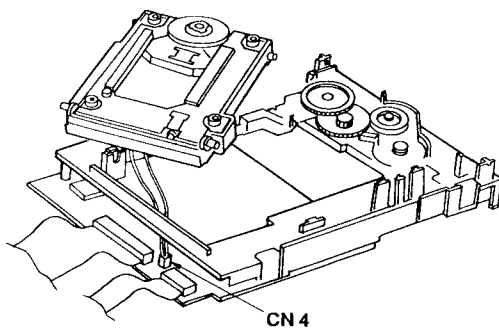

Figure 28
- (6) Turn over the CD-ROM Drive Unit again.
- (7) Connect the connector (CN 4) as shown in Figure 28